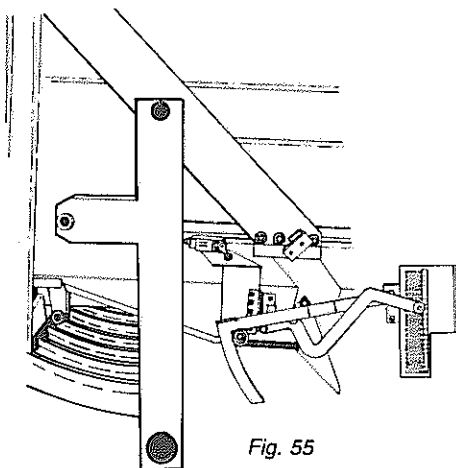

Fig. 55
4. Slowly reverse the knotter with the remote control cable until the needle yoke is at mid-stroke, see Fig. 55.